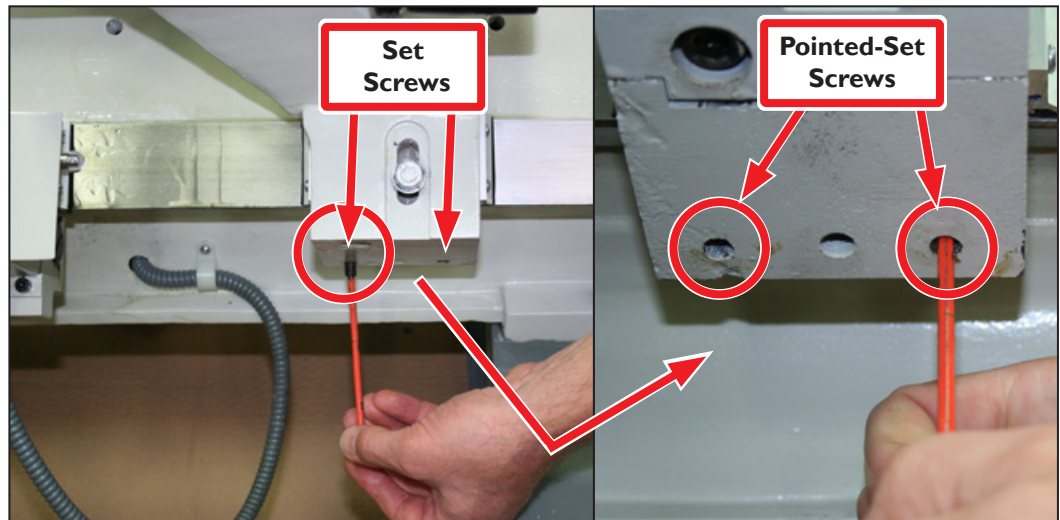
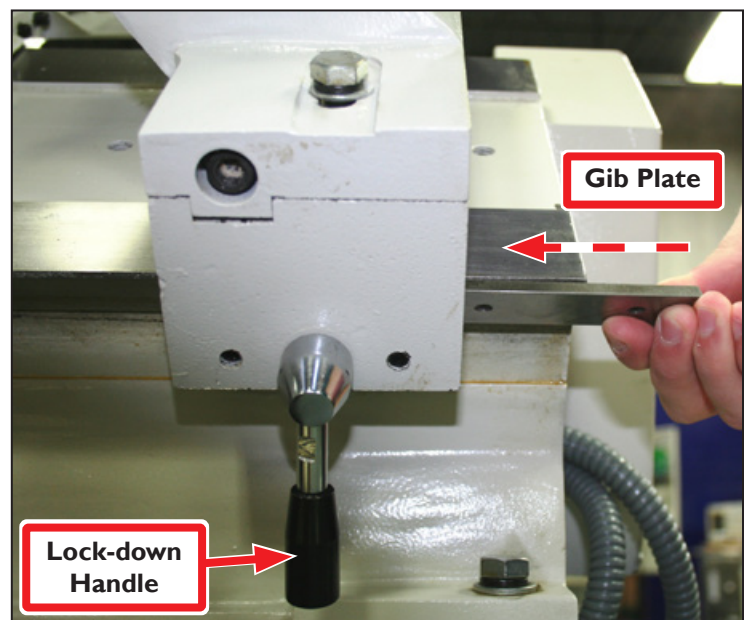

Figure 5
Figure 6
6. Unscrew and remove two set screws and set aside (see **Figure 5**).
7. In the same two holes, loosen two pointed-set screws (see **Figure 5**). This allows the insertion of the Gib Plate (see **Figure 6**).
8. Insert Gib Plate flush with way as shown in **Figure 6**.
10. Reinsert and tighten the two set screws (set aside earlier) to lock pointed-set screws in place (see **Figure 5**).